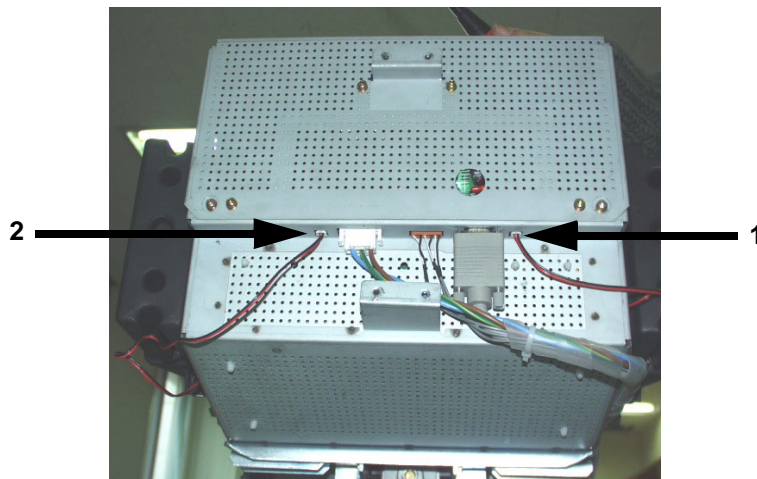

Figure 8-13 Disconnect two connectors
- 1.) Disconnect two connectors (1-2) from the rear side of the Monitor. Refer to Figure 8-13.